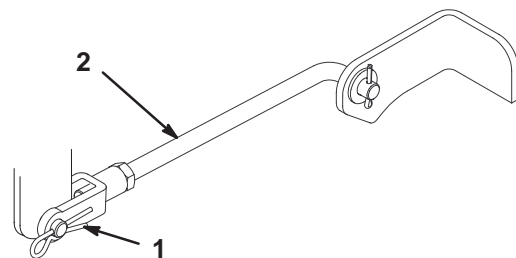

Figure 46
3. Remove the hairpin cotter and clevis pin from the front trunnion yokes (Fig. 46).
- Attach the front trunnion rods to the tractor with the clevis pins and hairpin cotters (Fig. 46).